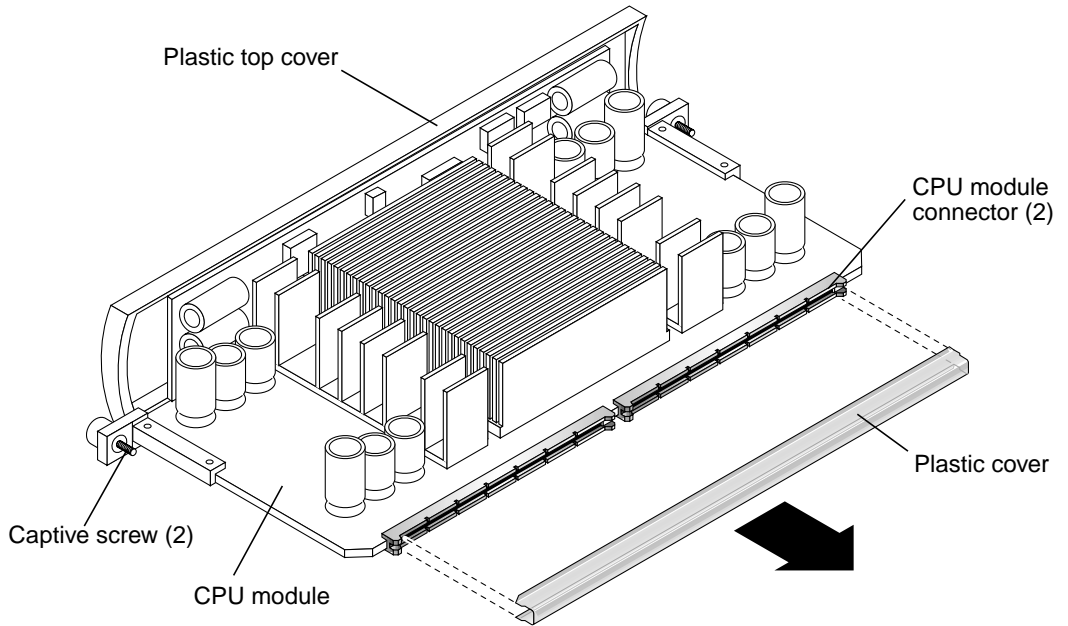

FIGURE 8-8 Removing the Plastic Cover From the CPU Module Connectors
Caution – Do not touch the board for the CPU module or its components. Touch only the captive screws and plastic top cover of the module to avoid damaging module components by electrostatic discharge (see FIGURE 8-8).
Caution – As you remove the CPU module from the shroud, handle it only by its captive screws. Do not touch the connectors on the bottom edge of the module or the electrical components on the module. The connectors and the components for the module are easily bent or damaged by improper handling and by electrostatic discharge (see FIGURE 8-8).
1. Remove the plastic cover from the CPU module connectors (see FIGURE 8-8).